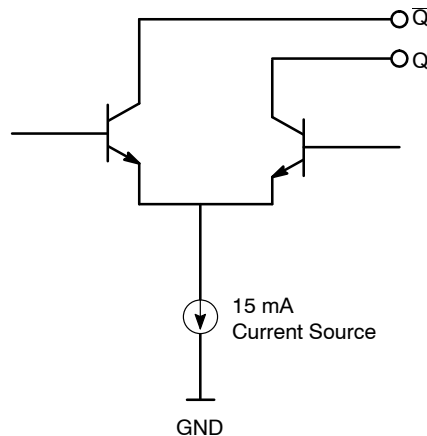

Figure 4. Output Structure
*The PECL Outputs are 15 mA open collector and must be DC loaded and AC terminated. See Figures 4, 5 and 6.
- PECL outputs loaded with external resistors for proper operation (see Figures 4, 5 and 6).
The NB4N507A requires a 0.01 μ F decoupling capacitor to be connected between V_{DD} and GND on pins 2 and 5. It must be connected close to the NB4N507A. Other V_{DD} and GND connections should be connected to those pins, or to the V_{DD} and GND planes on the board. Another four resistors are needed for the PECL outputs as shown in Figure 4. Suggested values of these resistors are shown, but they can be varied to change the differential pair output swing, and the DC level.